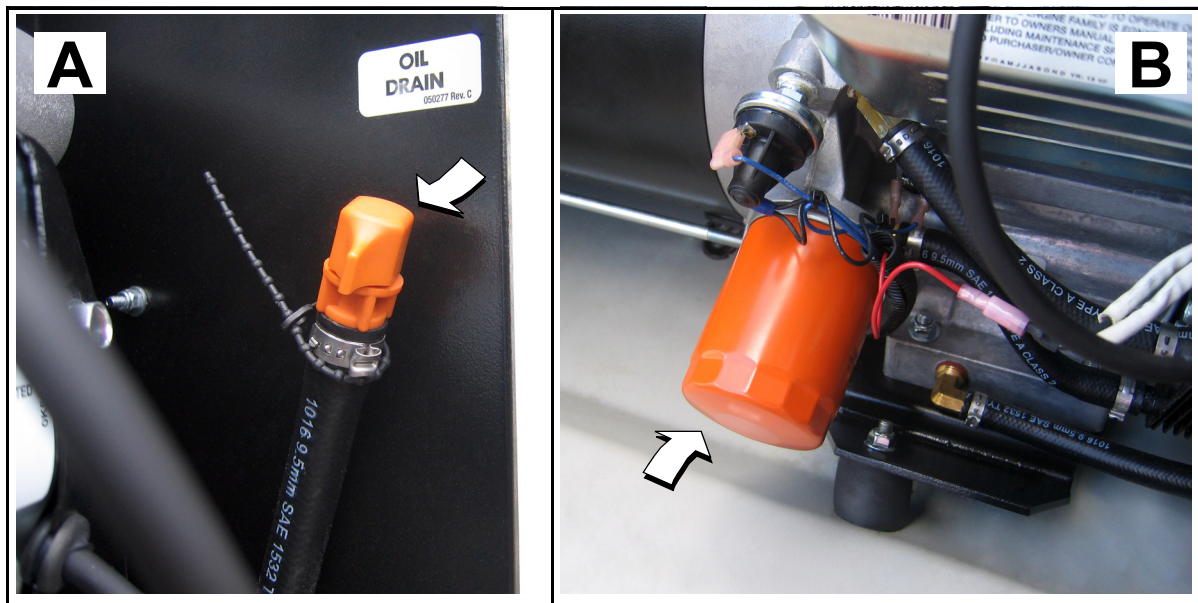

Figure 4-3. Oil Drain and Filter Location
2. Remove drain plug from oil drain hose. See A of Figure 4-3.
6. Rotate oil filter counterclockwise to remove from oil filter adapter. See B of Figure 4-3.